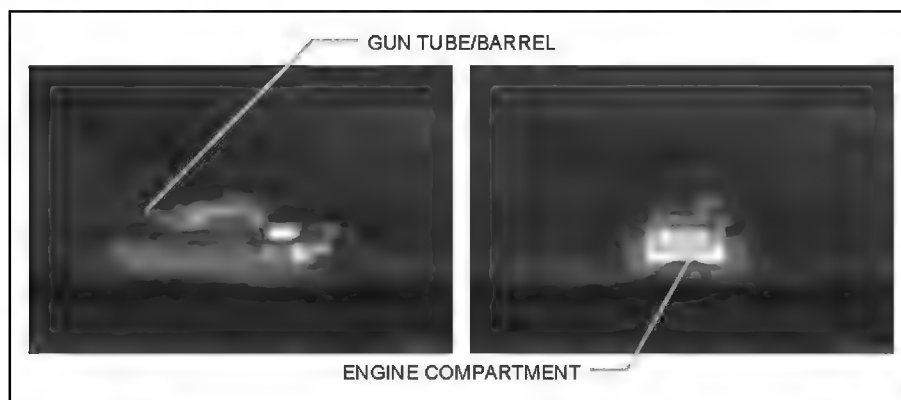

Figure E-51. Engine compartment and gun tube/barrel.
(3) **Gun Tube/Barrel**. The gun tube or barrel is another area to look for heat (Figure E-51). When the gun has been fired recently, it appears hotter than its background.